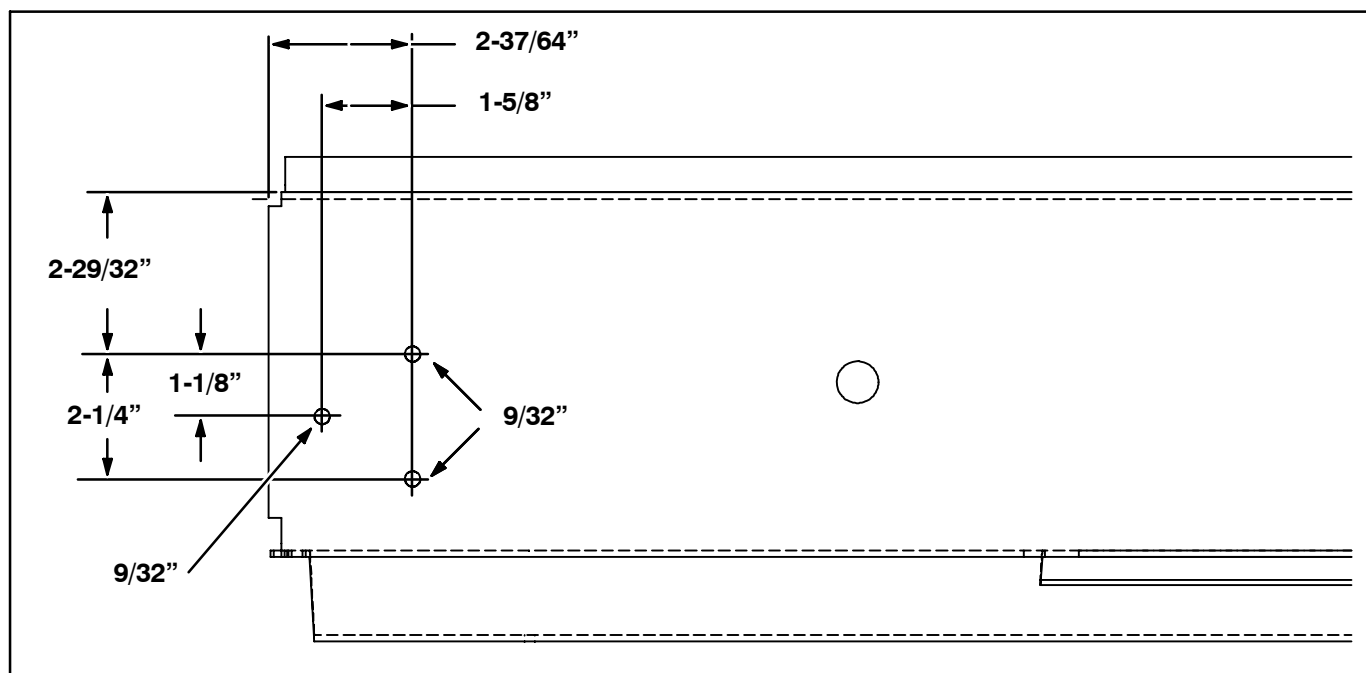

FIG. 1-Hole Locations in Machines Without Overhead Guard or Cab
1. **MACHINES WITHOUT MOUNTING HOLES FOR LINTEL MOUNTED ALARM ONLY:** Drill three 9/32" holes in rear left corner of operator compartment panel. Refer to Fig. 1.